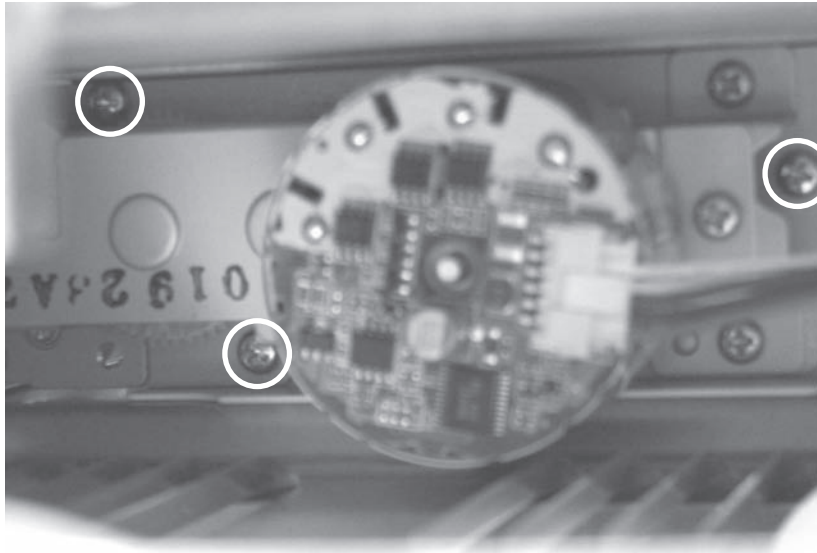

Fig. G-1
5. Remove the (3) screws holding the auto drawer gear to the bottom cavity angle (**Fig. G-1**).